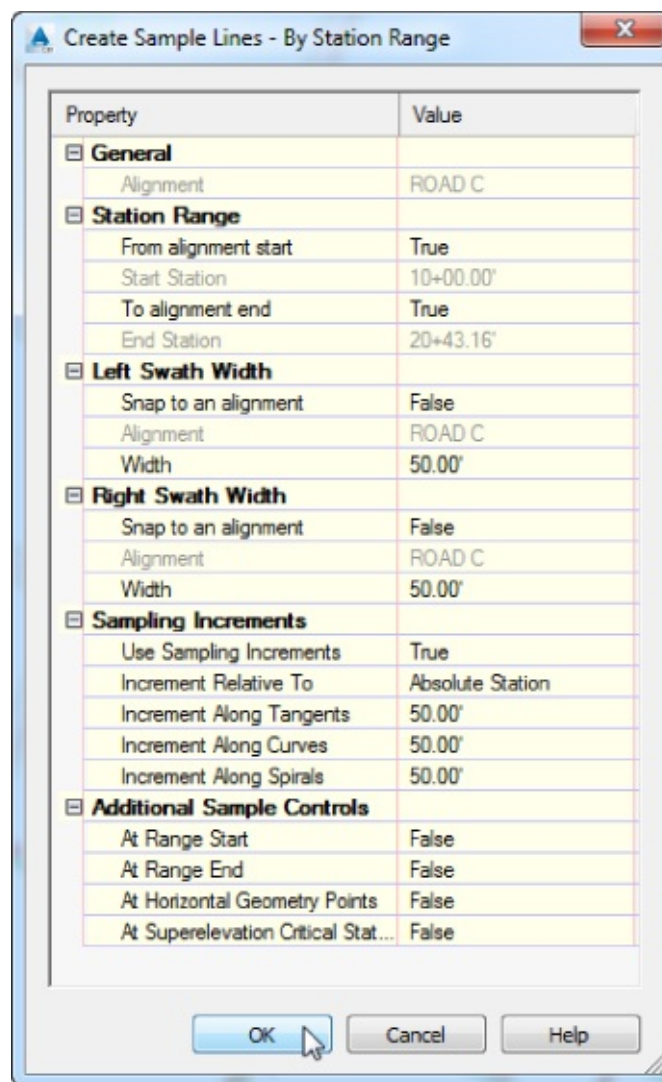

Figure 12.6 Create Sample Lines – By Station Range dialog
To define sample lines, you need to specify a few settings. Figure 12.6 shows these settings in the Create Sample Lines - By Station Range dialog.
10. Make sure that both the At Range Start and At Range End options are set to False, as shown earlier in Figure 12.6.